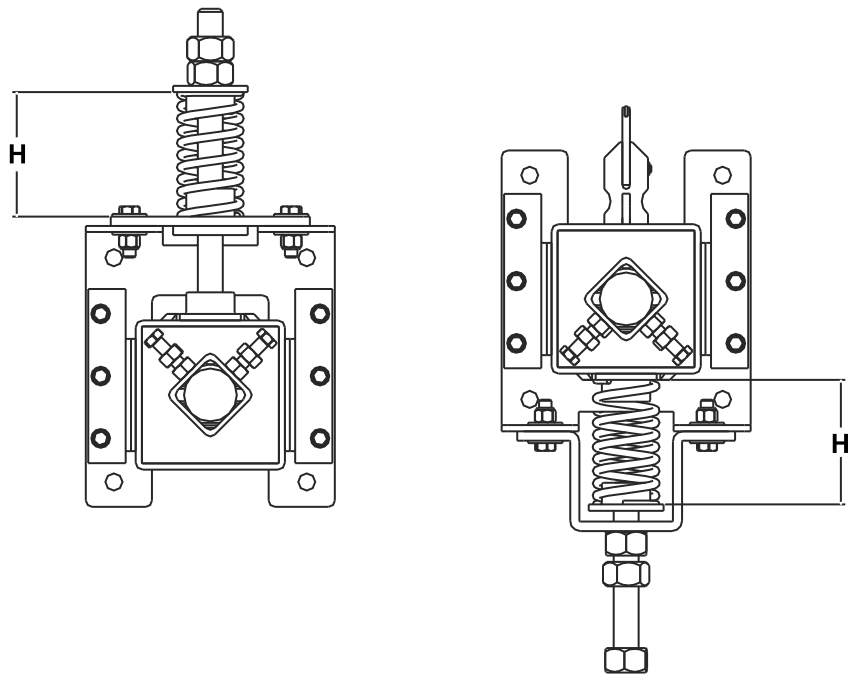

Figure 8. Spring Height (H) Measurement Location
Raise the Slide Blocks by evenly turning the adjustment bolts until the blade just contacts the belt. Check that the blade is evenly contacting the belt along the entire length of the blade. Once uniform blade/belt contact has been achieved, evenly raise the Slide Blocks causing the spring to load. Continue to tighten until sufficient upward force (blade pressure) has been achieved see Table 1 below. Spring Height (H) is the suggested tension starting point See Figure 8. Firmly tighten the lock nut on the two adjustment bolts. It may be possible that there is enough play in the belt that there can be enough downward force via belt weight so that compressing the spring may not be necessary.